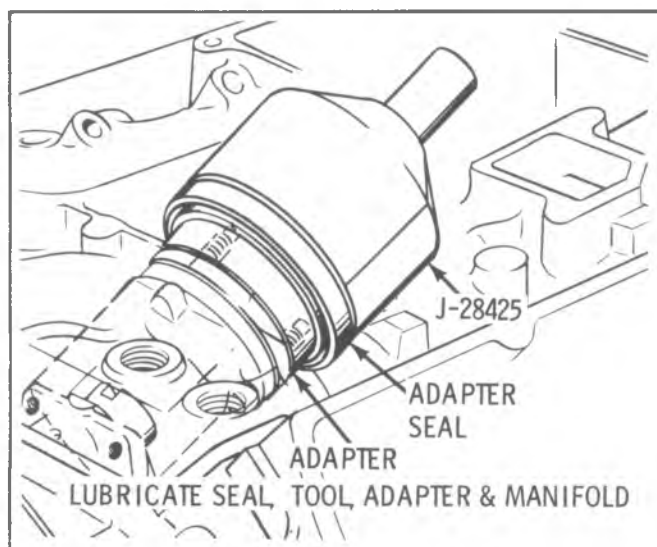

Fig. E-26—Installing Adapter Seal
8. Push seal on adapter with Tool J-28425. (Fig. E-26)